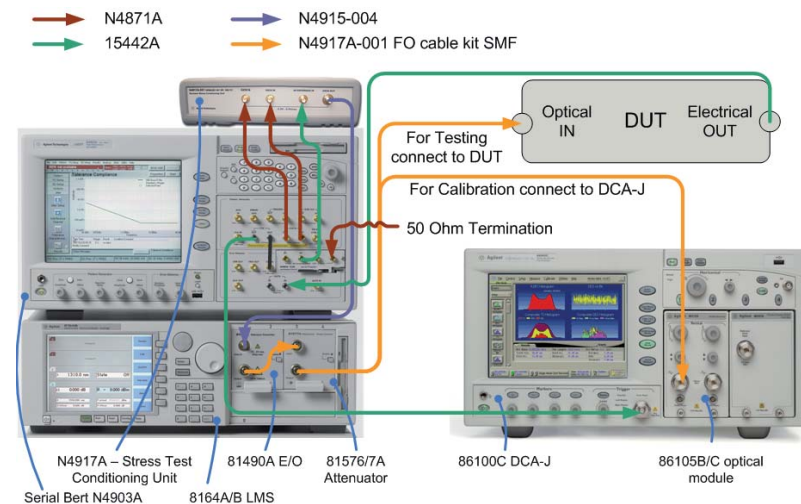

Figure 14: Setup for calibration including the recommended accessories
The setup to run the N4917A software with the necessary accessories is described in figure 14. The N4917A automation and calibration software provides adjustable parameters for ER, OMA, SI and PJ. At the standard compliance settings it displays the values for A0, VECP and the total jitter (TJ) according to the definition of IEEE802.3ae 2002 with help of an extrapolation from measured point gathered during a calibration process.